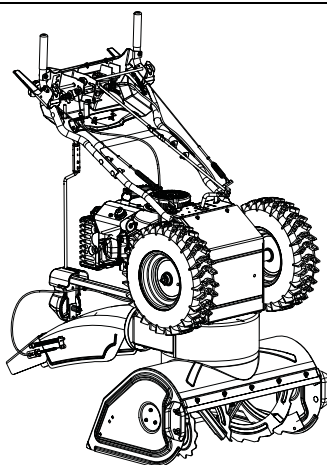

Figure 14
See Figure 14.
1. **Remove Bottom Cover** Place unit in service position. See Figure 14.